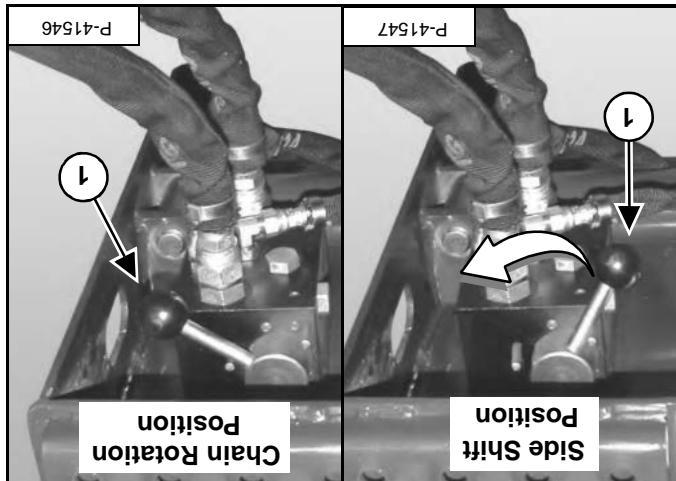

Figure OI-96
Move the selector valve lever (item 1) to the chain rotation position [Figure OI-96].